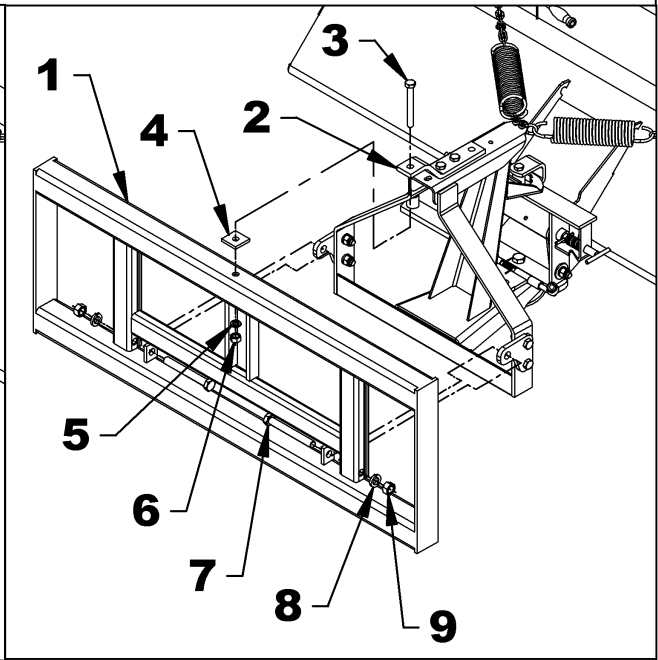

Figure 8B
3. **Figure 8B or 10B:** Attach the lower section of the broom back (item 2) to the hitch (item 1) with two 3/4"NC x 6" lg. hex. bolts (item 7), 3/4" lockwashers (item 8) and 3/4"NC hex. nuts (item 9).
4. **Figure 8B or 10B:** Attach the upper section of the broom back (item 2) to the hitch (item 1) with the 5/8"NC x 5" lg. hex. bolt (item 3), 2" x 2" x 5/16" spacer (item 4), 5/8" lockwasher (item 5) and 5/8"NC hex. nut (item 6).